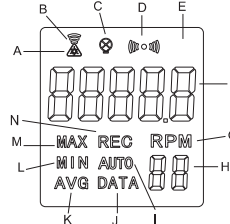

Fig.1
1.LCD: 5 digits LCD, Max 99999(Fig.1)